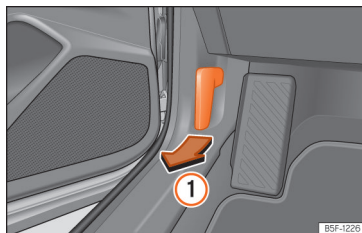

Fig. 200 Release lever in the driver's footwell area.
- Open the door and pull the lever that is underneath the instrument panel »»» Fig. 200 ①.